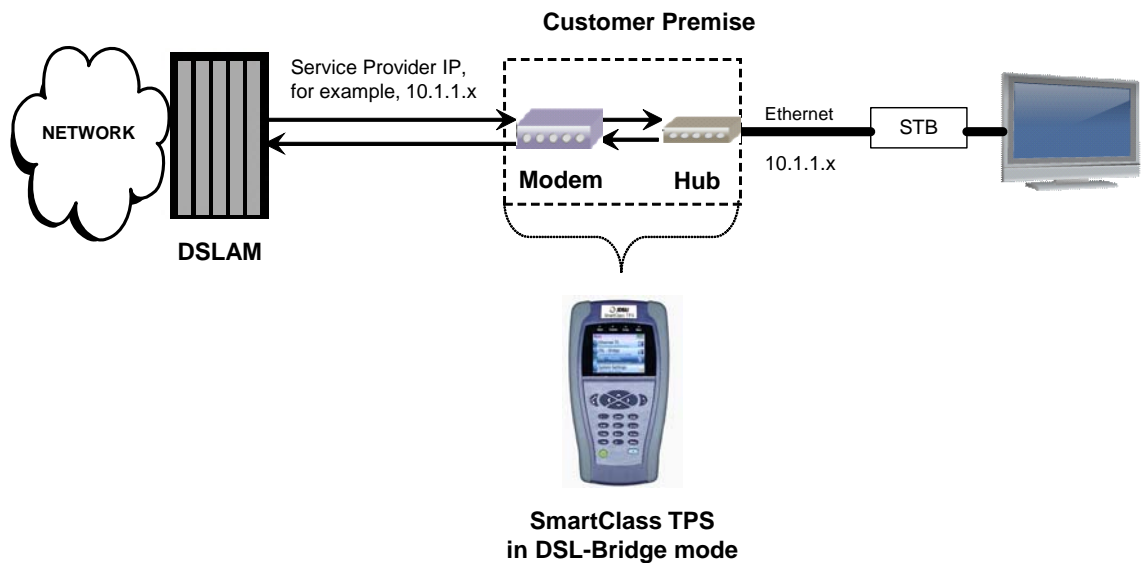

Figure 10 DSL-Bridge circuit
In **Bridge** mode, the SmartClass Triple Play Services replaces the modem, and hub, as indicated by the dotted-line box in Figure 10. It does not use a DHCP server so it does not assign IP addresses to other equipment. The end equipment uses either the service provider-supplied IP address or one that is on the same network (same netmask).
- **Ethernet Bridge Mode** works like Figure 10.